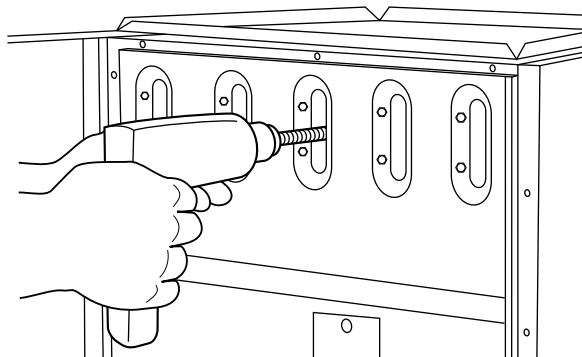

Fig. 46 – Cleaning Heat Exchanger Cell
- (1) Attach variable-speed, reversible drill to the end of spring cable (end opposite brush).
- (2) Insert brush end of cable into the outlet opening of cell and slowly rotate with drill. **DO NOT** force cable. Gradually insert cable into upper pass of cell. (See Fig. 46.)
- (3) Work cable in and out of cell 3 or 4 times to obtain sufficient cleaning. **DO NOT** pull cable with great force. Reverse drill and gradually work cable out.
- (4) Insert brush end of cable in burner inlet opening of cell, and proceed to clean 2 lower passes of cell in same manner as upper pass.
- (5) Repeat foregoing procedures until each cell in furnace has been cleaned.
- (6) Using vacuum cleaner, remove residue from each cell.
- (7) Using vacuum cleaner with soft brush attachment, clean burner assembly.
- (8) Clean flame sensor with fine steel wool.